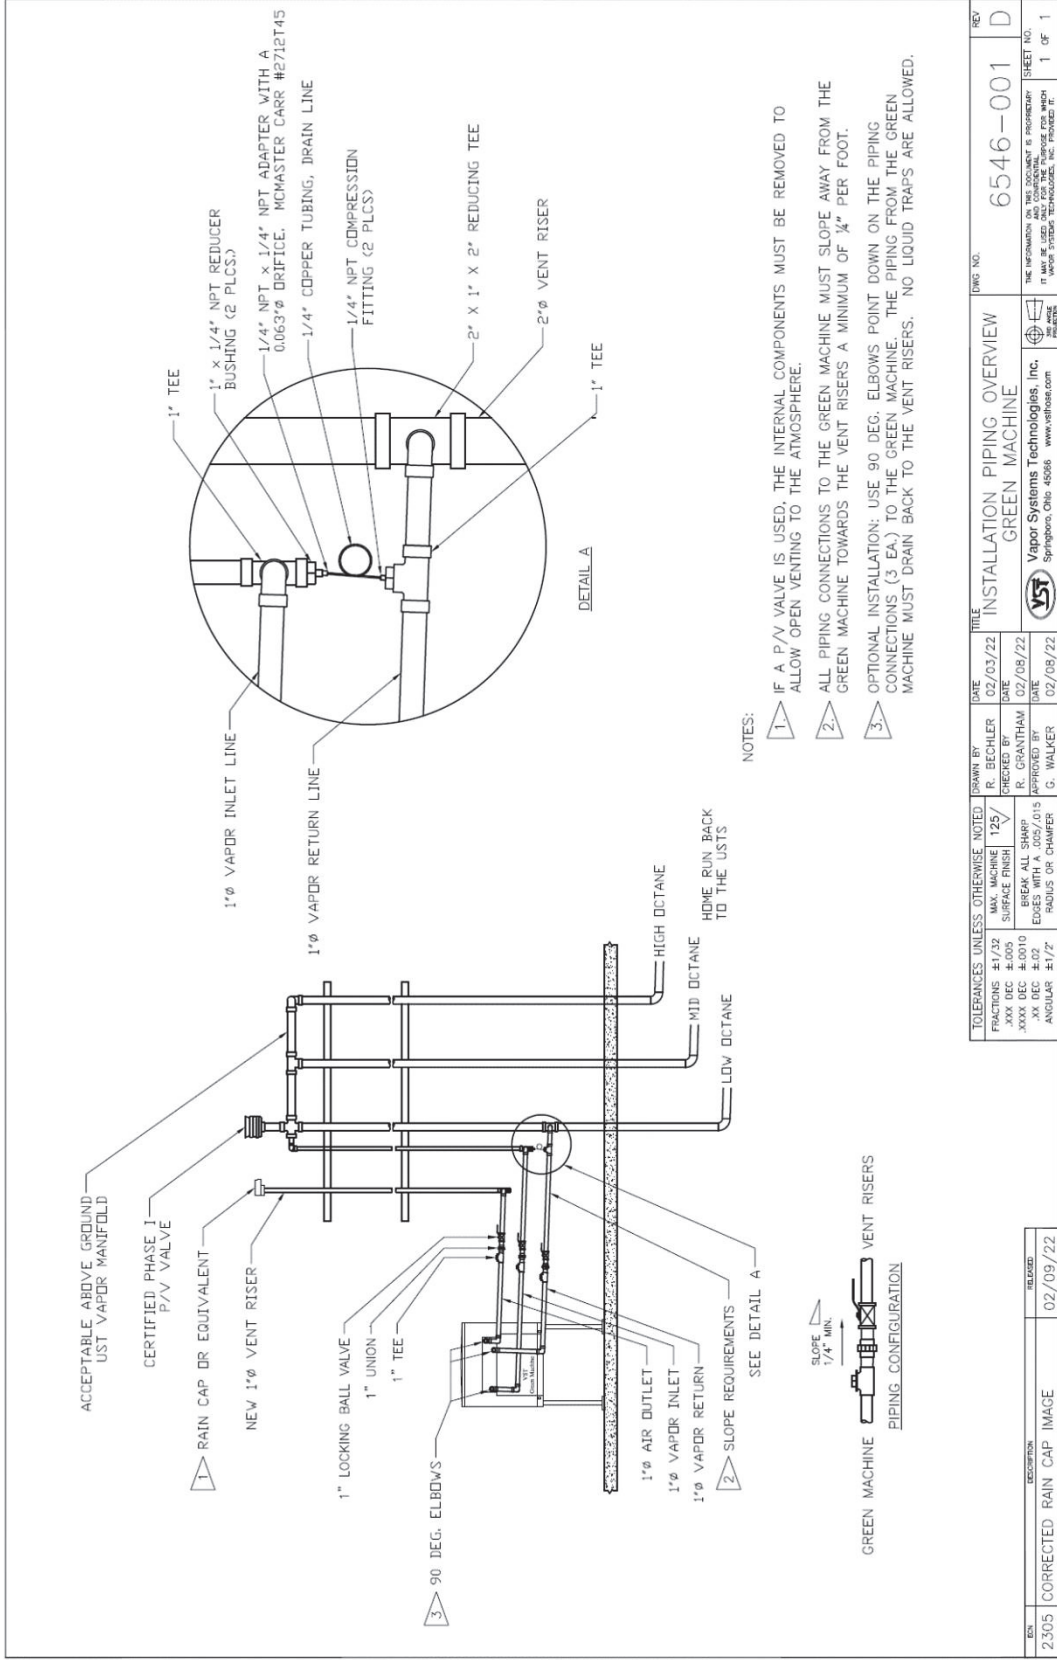

Figure 2-1: Vapor Piping Overview
- There are 3 piping connections to be made to the GREEN MACHINE. **See Figures 2-1 & 2-2:**
- The ¼" diameter drain line with the supplied adapter must be installed per **Figure 2-1**.
- Install a 1" vapor inlet pipe and a 1" vapor return pipe as shown in **Figure 2-1** from the vapor inlet and vapor return connections on the GREEN MACHINE to an existing vent riser.
See Figure 2-1.
- The 1" piping must slope away from the GREEN MACHINE a minimum of ¼" per foot. **See Figure 2-1.**
- From the vent riser, install the 1" locking ball valve, then the 1" union, then the 1" tee as shown in **Figure 2-1.**
- The ¼" diameter drain line with the supplied adapter must be installed per **Figure 2-1.**